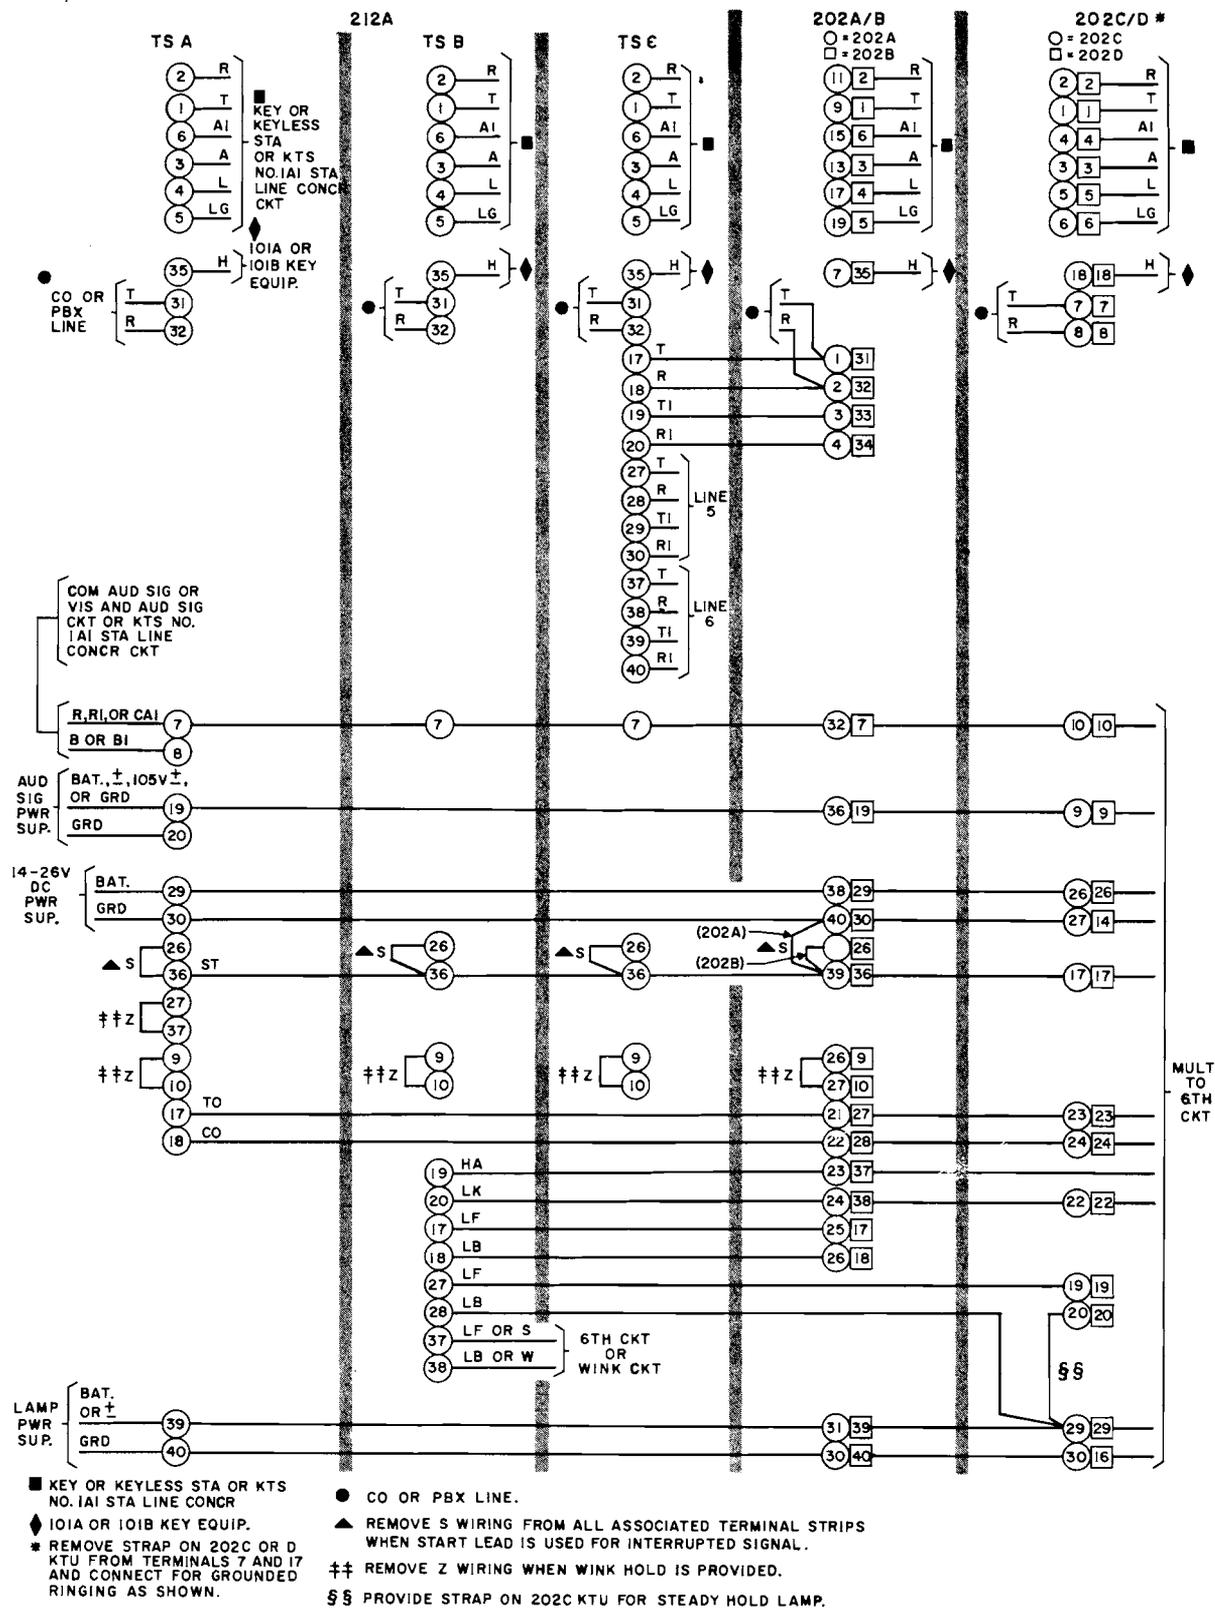

Fig. 2 - Connections and Strappings for 212A KTU and Additional 202A, B, C, and/or D Key Telephone Units
2.02 Fig. 2 is a connection drawing of the 212A KTU and additional 202A, B, C, and/or D key telephone units. This includes terminations to be made for incoming lines, power supply, key or running cables to the stations, and cross-connection straps within and between the units. The connections shown provide for a steady hold lamp indication.